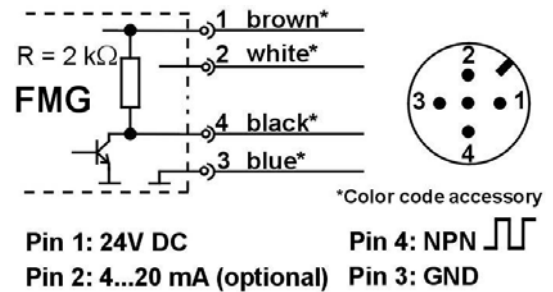

Fig. 6: Electrical connection
- ↗ Connect the connecting cables of the FMG corresponding to Fig. 6.